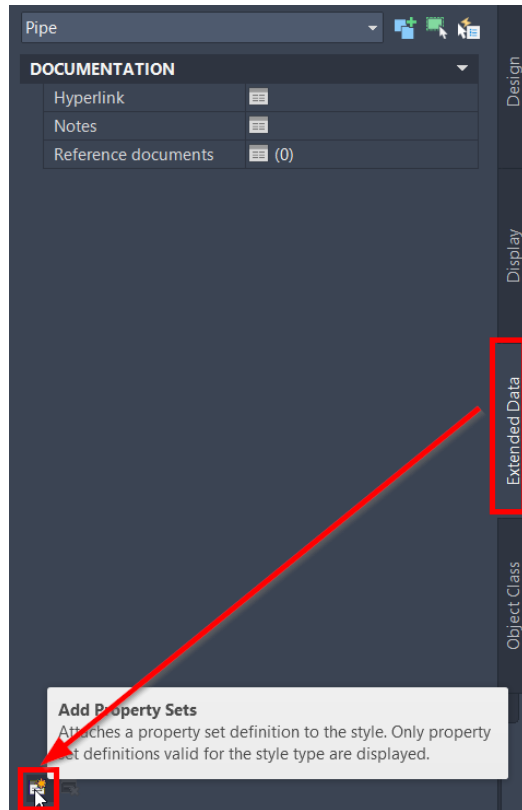

Figure 10.7 – Add Property Sets option in the Properties | Extended Data tab
- To assign the newly created property set (**Storm Drainage**) to our particular pipe, we'll switch over to the **Extended Data** tab in the **Properties** dialog box and click on the icon in the lower left-hand corner (when hovered over the icon, **Add Property Sets** will display), as shown in *Figure 10.7*.